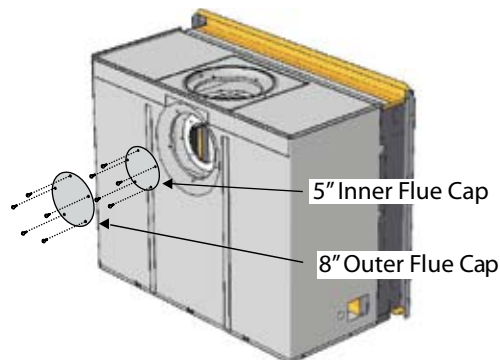

Figure 7a. Flue cap installation for Top Vented fireplace, (L52-DF Only).
1. Install the 5" inner flue cap on the rear flue outlet and secure the cap in place with five screws, as shown in figure 7a.
2. Install the 8" outer flue cap on the rear flue outlet, and secure it with five screws, as shown in figure 7a.